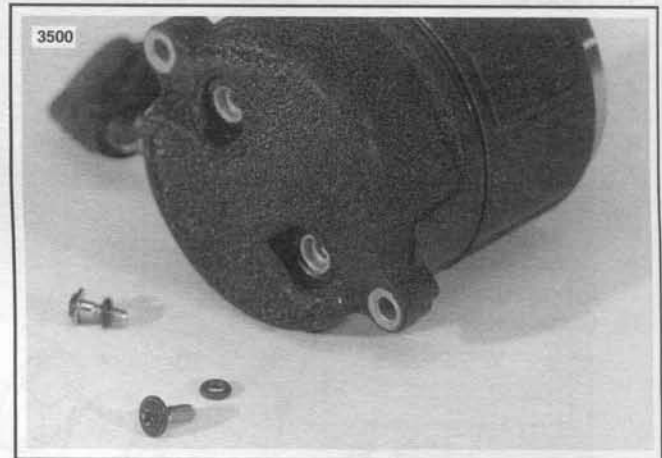

Figure 5-13. Remove End Cap Screws & O-rings
3. See Figures 5-13 and 5-14. Remove the end cap screws (5) and cap.